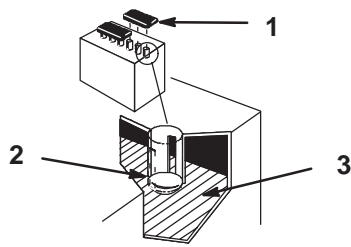

Figure 62
1. Open covers to see into the cells. The electrolyte must be up to the lower part of the tube (Fig. 62). Do not allow the electrolyte to get below the plates (Fig. 62).
2. Lift off the filler caps (Fig. 62).
3. Slowly pour distilled water into each battery cell until the level is up to the lower part of the tube (Fig. 62).